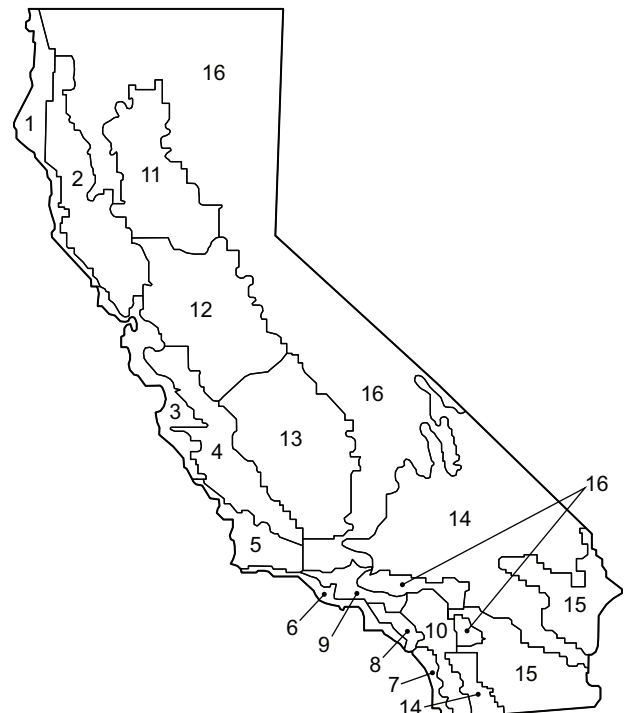

Fig. 84 — California Title 24 Zones
b. See Fig. 84 for map of California Title 24 zones.